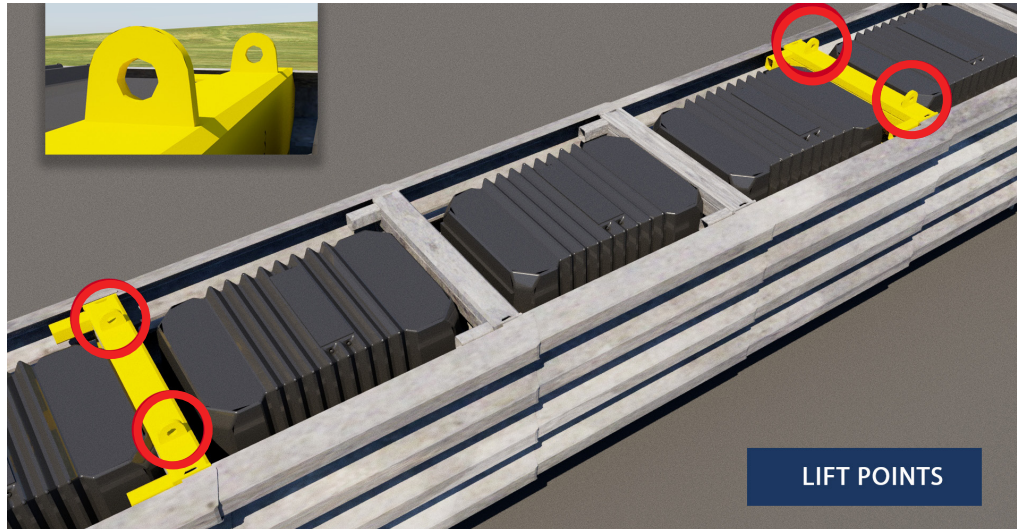

Figure 7b: System Lifting Points
As an alternative, lift at the (4) tabs located at the top of bulkheads 3 and 6 (Figure 7b).